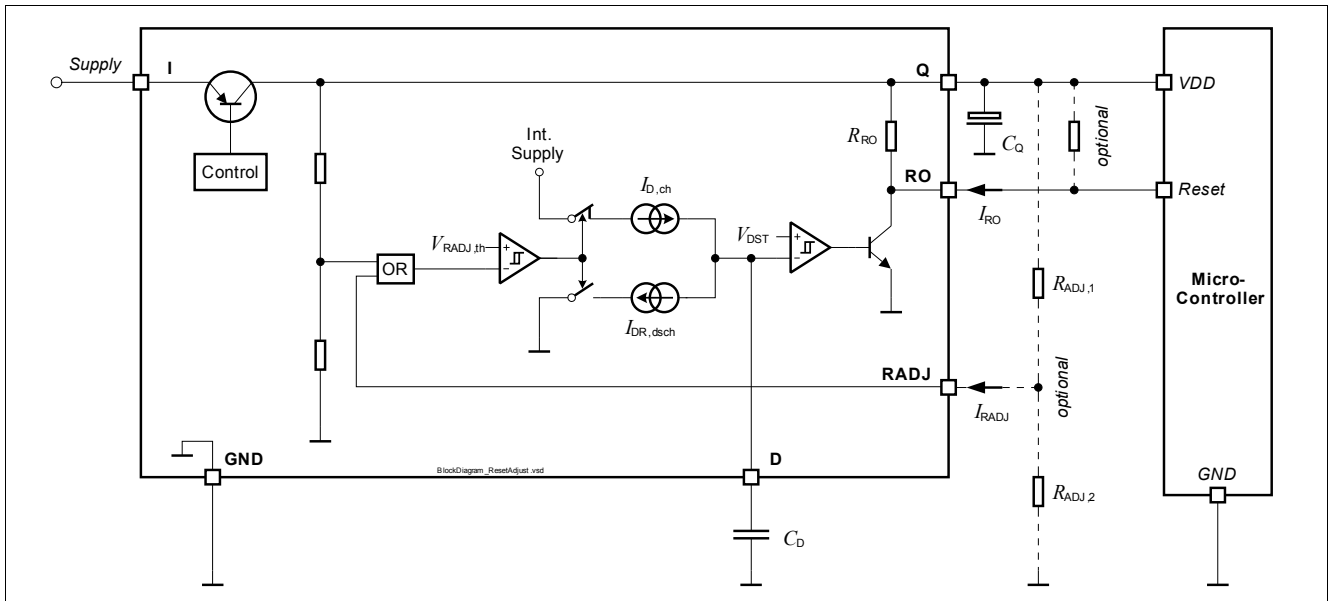

Figure 6 Block Diagram Reset Circuit
- $R_{ADJ,1}$, $R_{ADJ,2}$: Resistors of the external voltage divider, see Figure 6.
all voltages with respect to ground, direction of currents as shown in Figure 6 (unless otherwise specified).